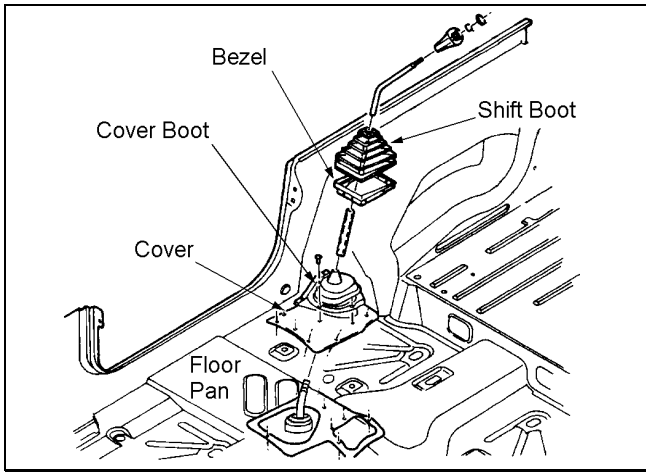

Figure 22
- 2)  Pry up the shift boot and bezel from the floor console. See figure 22.